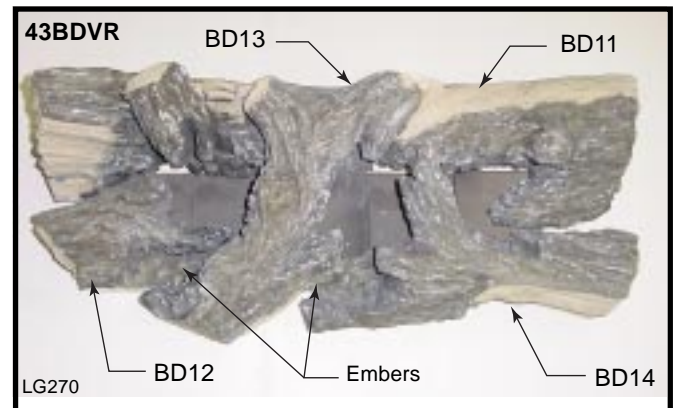

Fig. 41 43BDVR log placement.
Refer to Figure 41
7. Scatter the ember material over the front area of the burner housing assembly. (Fig. 41) Do not pack this material tightly, separate it when unpacked and keep it in a loose condition.